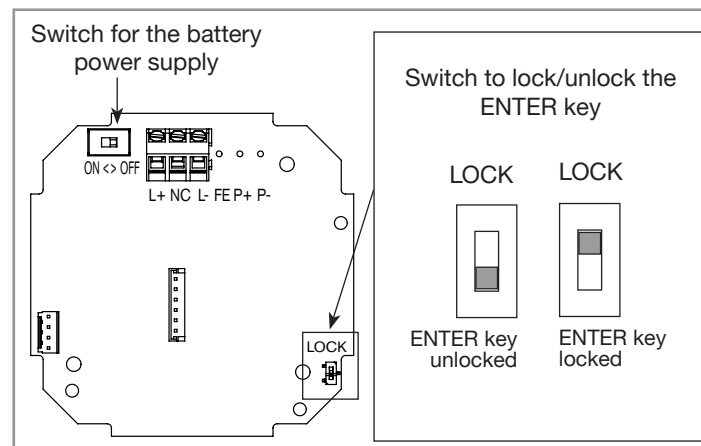

Fig. 9: Switches on the electronic board
- Make sure that the ENTER key is unlocked. See Fig. 9.
- Put the power supply switch to ON. See Fig. 9.